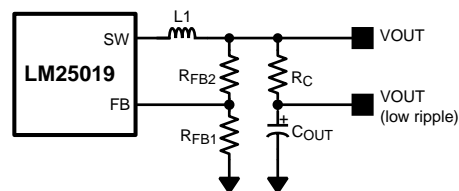

Figure 13. Low Ripple Output Configuration
This regulator regulates the output voltage based on ripple voltage at the feedback input, requiring a minimum amount of ESR for the output capacitor (C_{OUT}). A minimum of 25mV of ripple voltage at the feedback pin (FB) is required for the LM25019. In cases where the capacitor ESR is too small, additional series resistance may be required (R_C in Figure 13 Low Ripple Output Configuration).
For applications where lower output voltage ripple is required the output can be taken directly from a low ESR output capacitor, as shown in Figure 13 Low Ripple Output Configuration. However, R_C slightly degrades the load regulation.